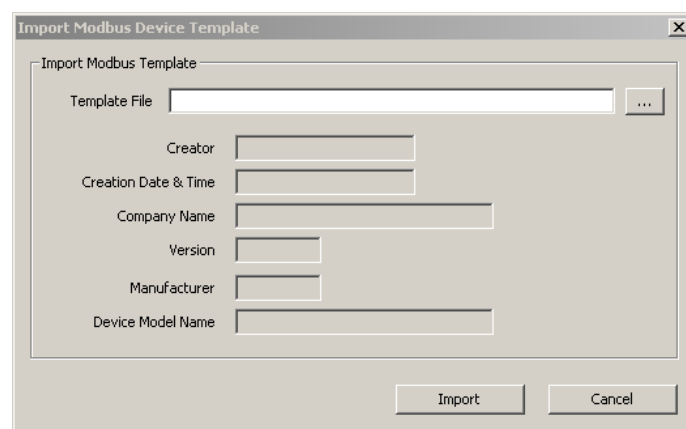

Figure 212 Import Modbus Device Template dialog.
3. Click on the **Create From Template** button. This opens the **Import Modbus Device Template** dialog shown in Figure 212.
3. Click on the **Create with DP** button. This opens the **Import Modbus Device Template** dialog shown in Figure 212.